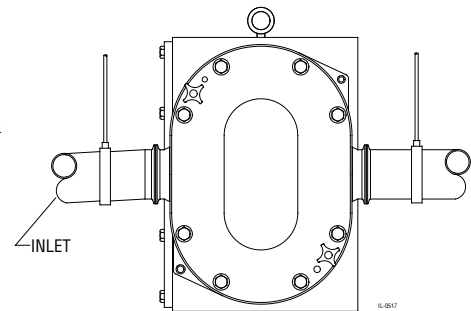

Figure 2
- Slope inlet piping up to pump to avoid air pockets (Figure 2).